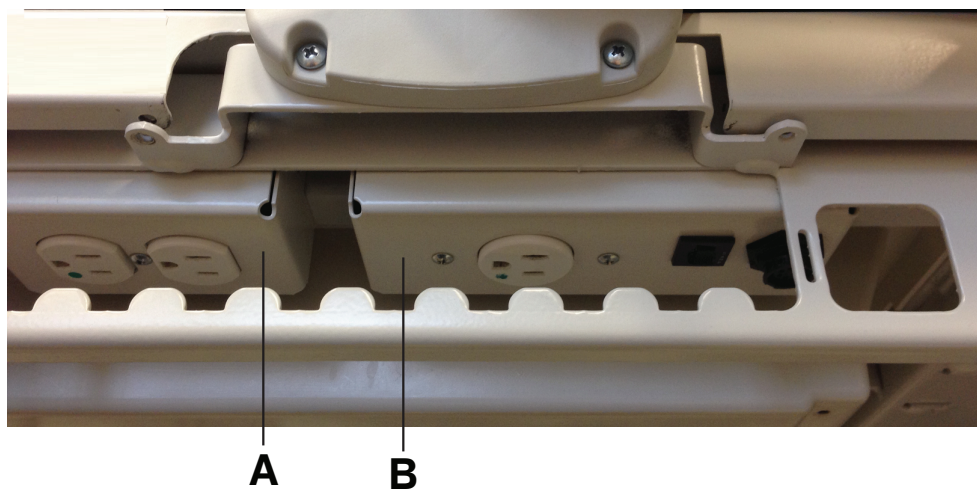

Figure 13: Optional InTouch auxiliary outlets
You can use the 110 volt **InTouch** auxiliary power outlet as a built-in power source for peripheral equipment. The outlet is located beneath the foot end on the patient left side of the product (A) (Figure 1 on page 17). There is a one and two plug option for the **InTouch** auxiliary outlet (A) (Figure 13 on page 32).
There is also an auxiliary mattress connector outlet for connecting a support surface option to InTouch (B) (Figure 13 on page 32). A 5A breaker is also integrated into this power outlet.